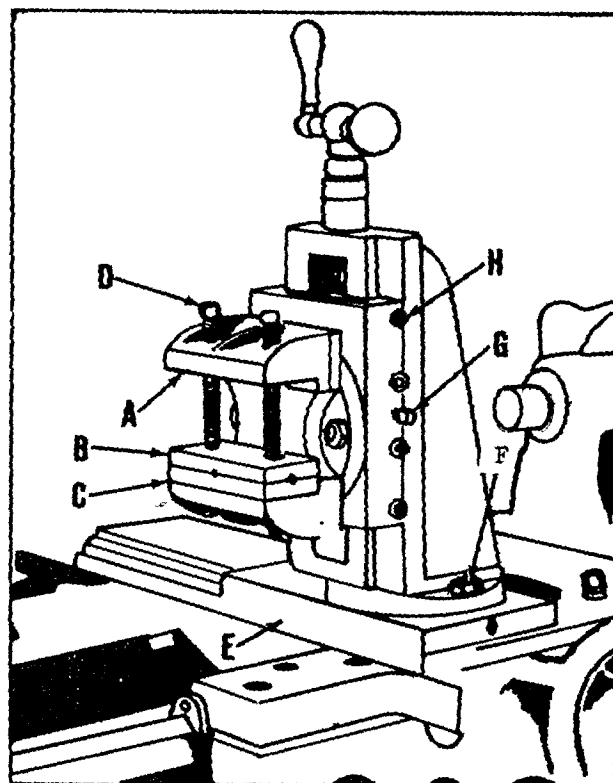

Figure 1
The Delta Milling Attachment has greater versatility by the addition of the pivoted vise (A) Figure 1. The work piece is held between the jaws (B) and (C) and clamped by screws (D).